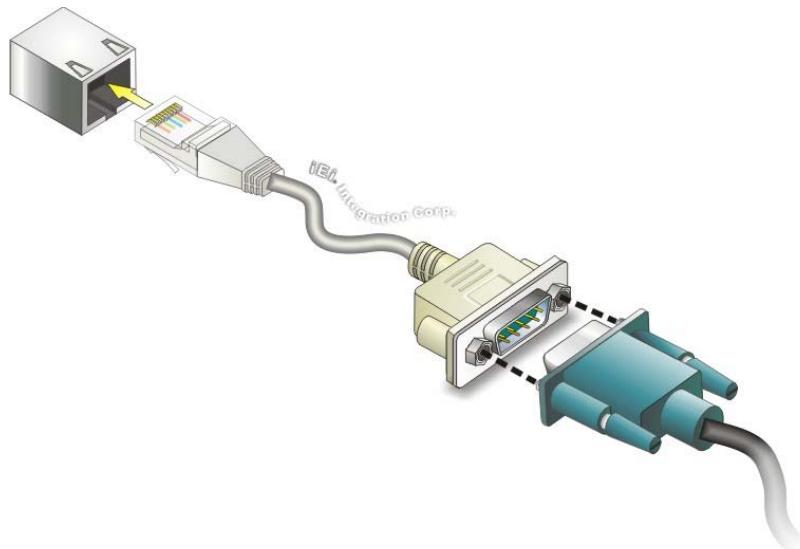

Figure 3-17: Serial Device Connector
Step 3: Insert the serial connector. Insert the D-sub 9 connector of a serial device into the D-sub 9 connector on the cable. See **Figure 3-17**.